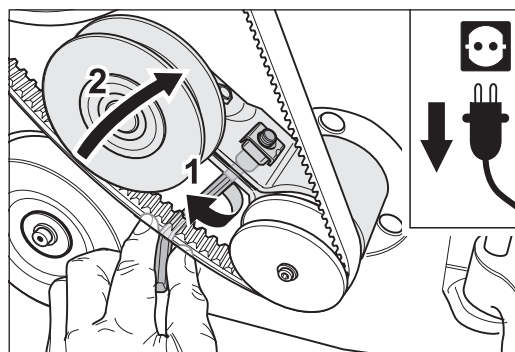

Fig. 105 Open the clamping screw of the belt tensioner (1) and release the tension of the suction V-belt (2).
- 6 Open the clamping screw of the belt tensioner for the suction V-belt (fig. 105, 1).
- 7 Turn the belt tensioner clockwise to release the tension of the suction V-belt (fig. 105, 2).
- 1 Open the clamping screw of the belt tensioner for the suction V-belt (fig. 105, 1).
- 2 Turn the belt tensioner clockwise to release the tension of the suction V-belt (fig. 105, 2).